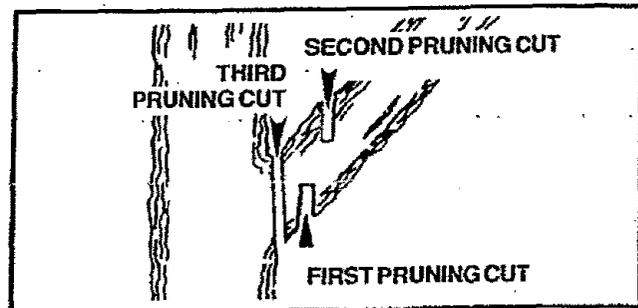

Figure 33
- b. Refer to Figure 33 for the pruning technique.